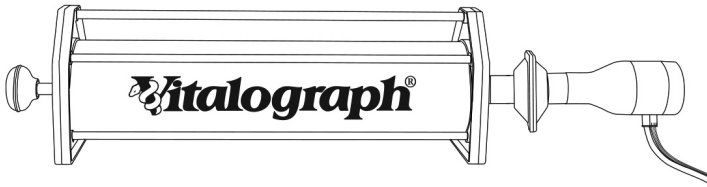

Figure 4: Verifying Calibration
- Attach flowhead to the syringe with a BVF fitted as per figure 4.